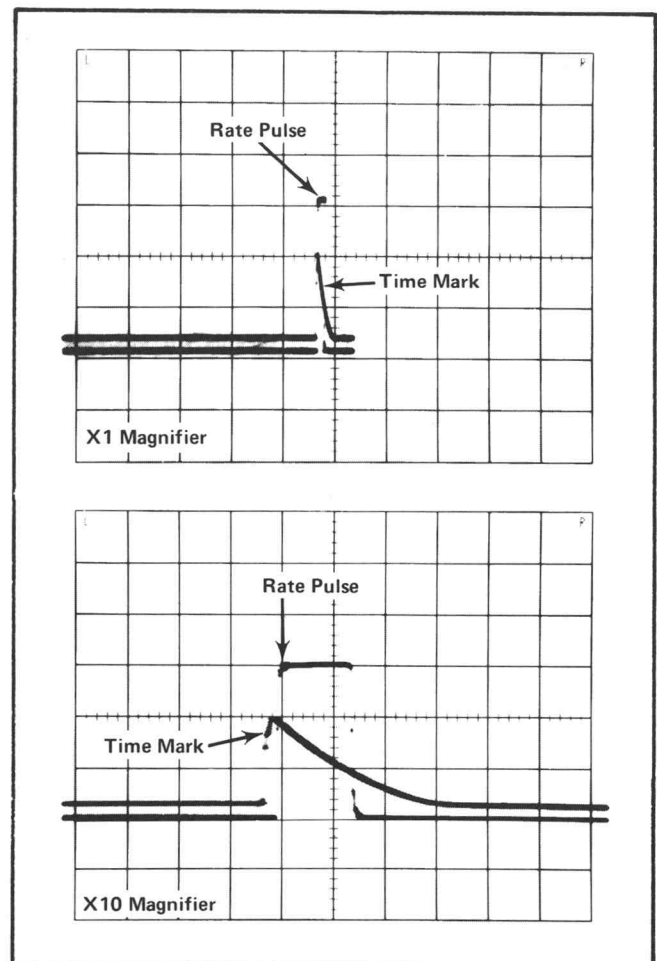

Fig. 5-8. Typical display for Rate Mult Timing Adjust, step 8.
a. Connect RATE (F) OUTPUT and Gnd to Dual Trace Amplifier, CH 1.
d. Check for one output pulse for each time mark. Set R2 for one pulse for each time mark as in Fig. 5-8.